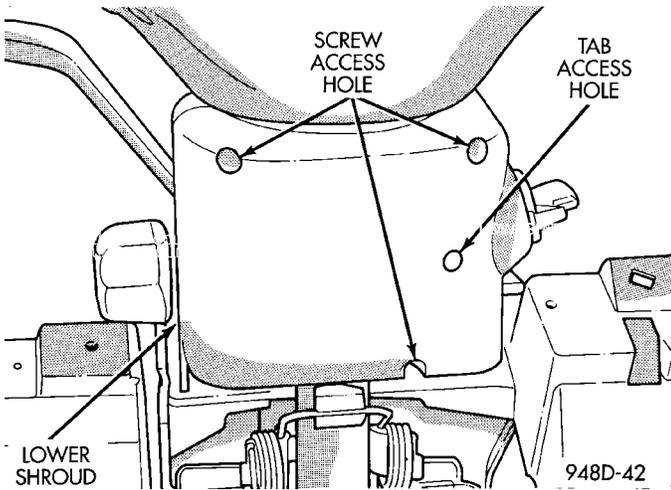

Fig. 14 Key Lock Cylinder Access Hole In Steering Column Shrouds
(13) Remove steering wheel assembly from steering column shaft using Puller, Special Tool C-3428-B or equivalent.
(14) Remove key lock cylinder from steering column. Key lock cylinder is removed from steering column using the following procedure. Place the key lock cylinder in the Run position. Then through the hole in lower shroud, (Fig. 14) depress lock cylinder retaining tab and remove key lock cylinder.